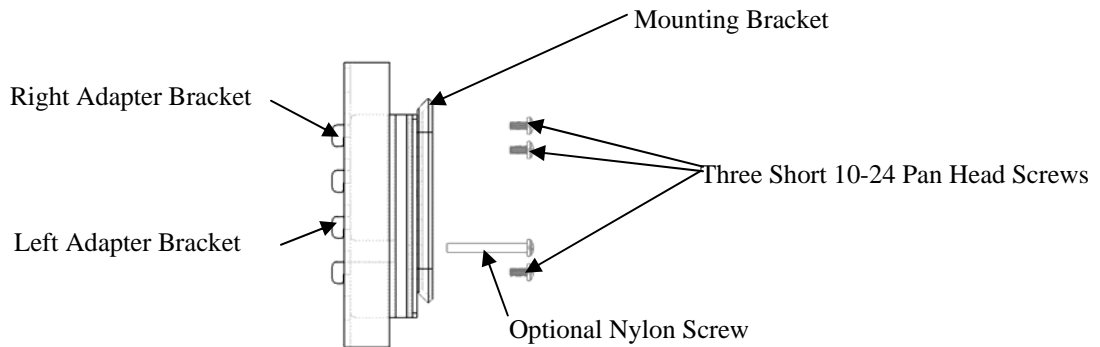

Figure 3
- Secure the mounting bracket (supplied with your mounting assembly) to the adapter brackets using three short 10-24 pan head screws (see Figure 3).